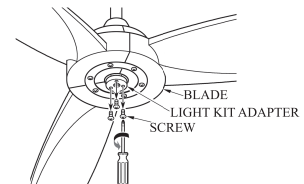

FIG.12
1. Remove the 3 screws on light kit adapter. (See fig.12)